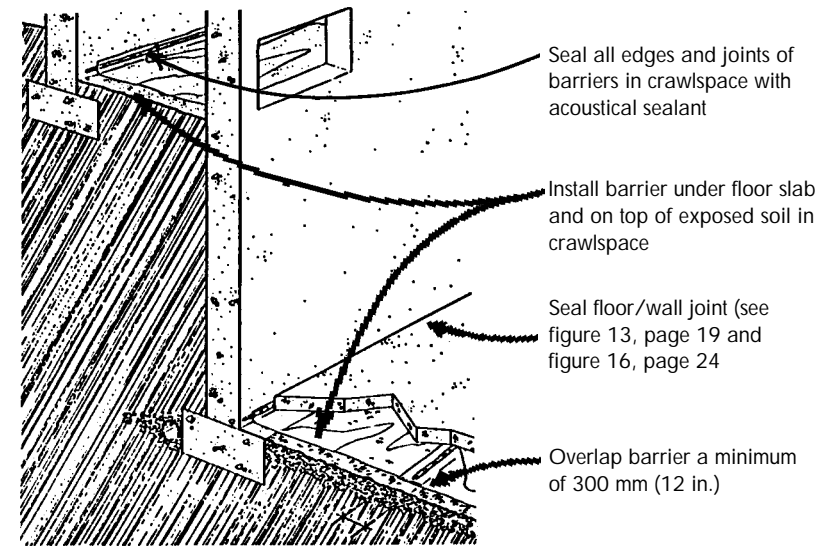

Figure 17: Polyethylene barrier for crawlspaces and basement floor slabs
- **Exposed soil** – Exposed soil in crawlspaces can be covered by a barrier with sealed edges and joints (see **figure 17, page 25**). If there are major gaps in the basement floor slab (e.g. cold storage room), concrete should be poured to cover any exposed soil.
- Install a barrier of at least 0.15 mm (6 mil) polyethylene under the basement floor slab or on top of exposed soil in crawlspaces (see **figure 17, page 25**). Joints in the polyethylene should be overlapped no less than 300 mm (12 in.). In crawlspaces, seal the joints and edges with acoustical sealant. Look for products which are more a more durable alternative to regular polyethylene such as cross-laminated polyethylene.